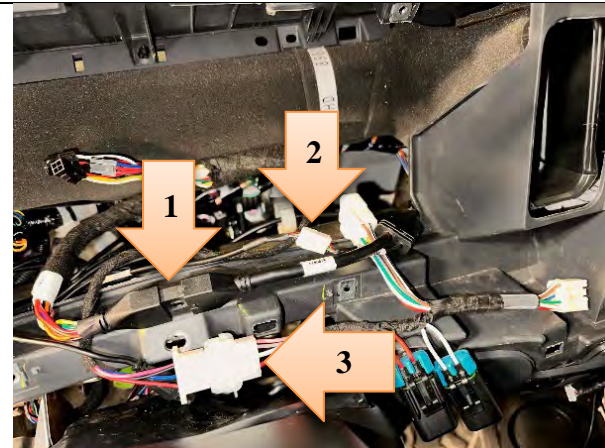

Figure 68
- b. **Mobileye 8:** Connect the camera cable to the signal harness 14 pin black connector and, if equipped, to the optional GPS antenna. Connect the T-Harness connector MH-2 to the signal harness. (See Figure 68.)